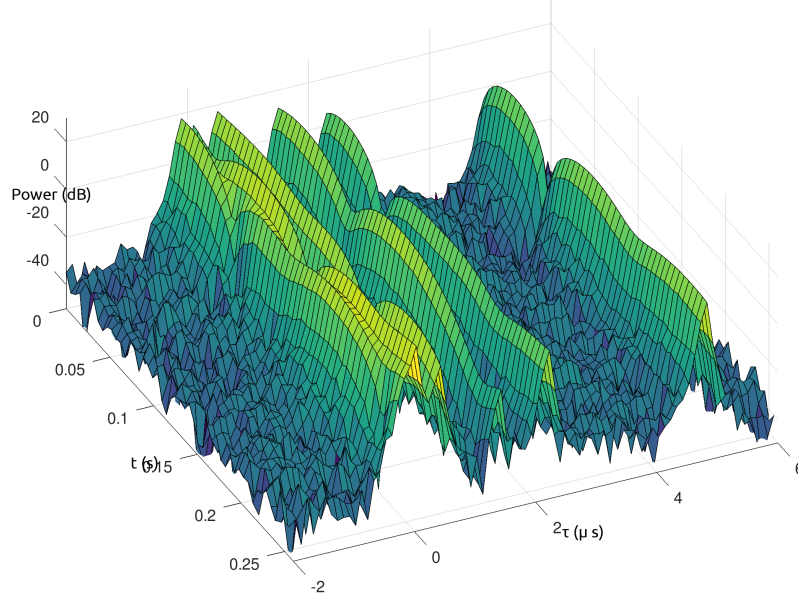

Figure 2.2: 50 snapshots of time-variant impulse response. Plotted using `surf` function.
- Plot the absolute value of the impulse response for first 50 impulse responses. Example is given in figure 2.2.